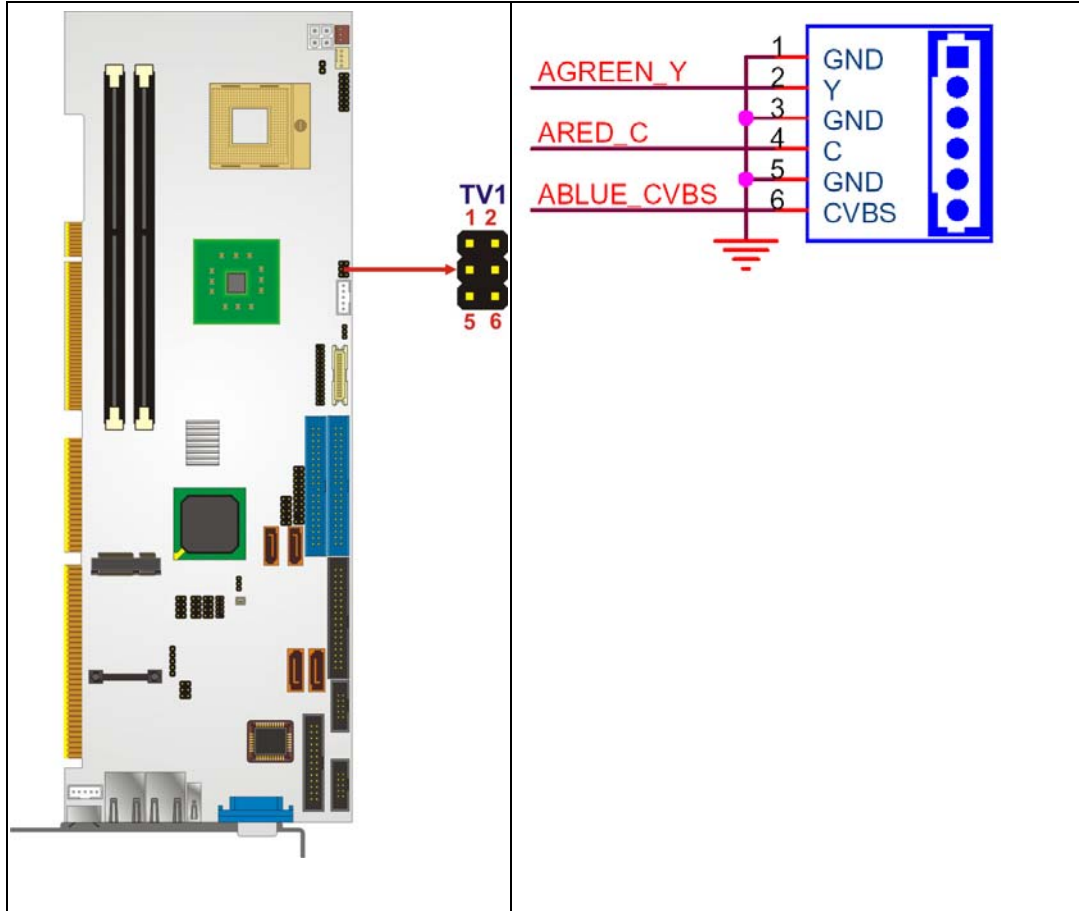

Figure 4-20: TV Out Connector Location
- CN Location:** See **Figure 4-20**